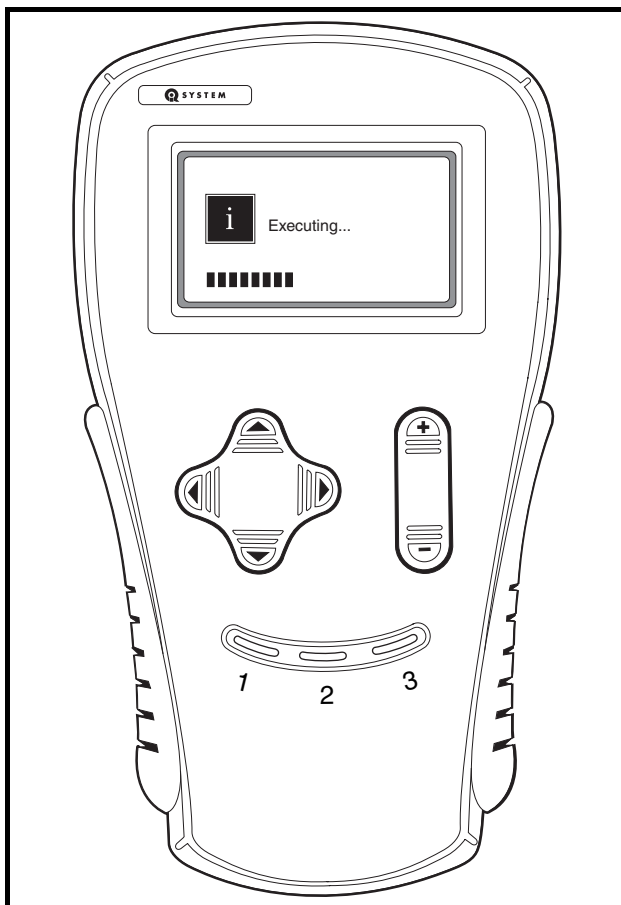
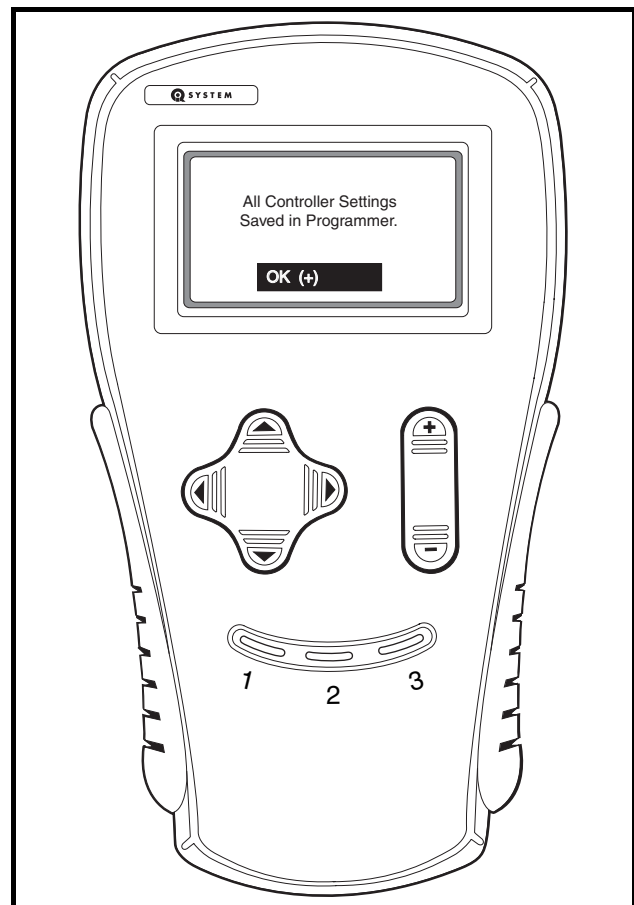

Figure 12-5 Handset Executing
Figure 12-6 Confirmation Message
- 3.4. Align the keyed portion of the plug with the IQDM jack and connect the plug to the jack (**Figure 12-5 or Figure 12-6**).
8. The handset will display an “executing...” message for the next few seconds while the controller settings are being stored in the handset’s memory (**Figure 12-5**).
9. When the handset is finished recording the speed controller settings, a confirmation message is displayed (**Figure 12-6**).
- 4.4. Align the keyed portion of the plug with the IQDM jack and connect the plug to the jack (**Figure 12-5 or Figure 12-6**).
9. The handset will display an “executing...” message for the next few seconds while the controller settings are being stored in the handset’s memory (**Figure 12-5**).
- The handset will display an “executing...” message for the next few seconds while the controller settings are being stored in the handset’s memory (**Figure 12-5**).